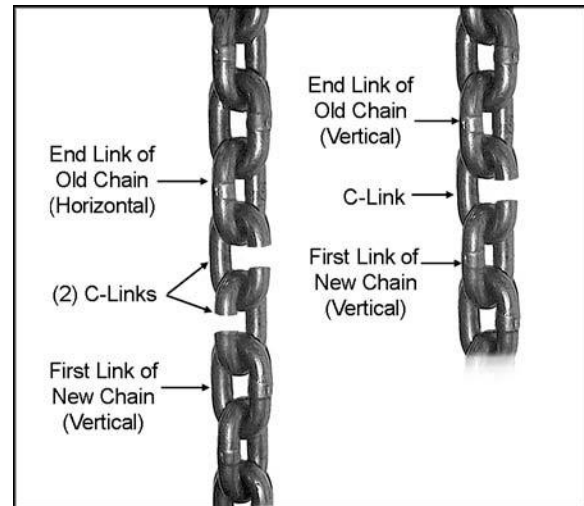

Figure 9
4. Using a C-link(s), connect the new chain to the old chain. If the end link of the old chain is horizontal, use two C-links. If the end link of the old chain is vertical, use one C-link. See Figure 9. Using the correct number of C-links will properly orient the chain, and ensure that the first link on the load side end is a vertical link.